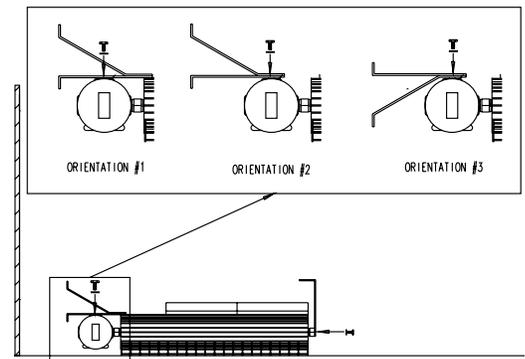

FIGURE 7 - INSTALL MOUNTING BRACKET TO HEATER
Step 2: Fasten top stabilizing bracket(s) and floor mounting bracket(s) to the unit. Floor mounting brackets may be mounted in one of three orientations (Figure 7).